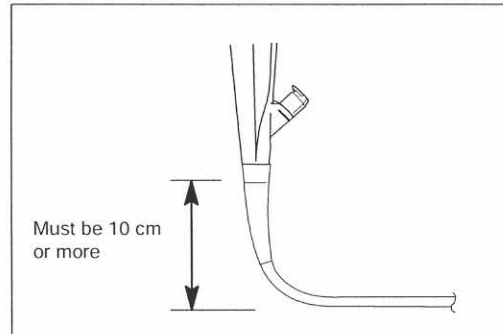

Figure 4.2
**CAUTION** Do not allow the Insertion Tube to bend in a radius of 10 cm or less at the junction of the Boot. Insertion Tube damage can occur. (See Figure 4.2)